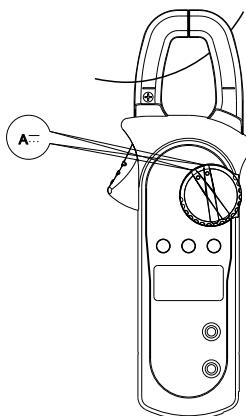

Figure 11
9. DC current measurement ($A=\equiv$) (shown in Figure 11)